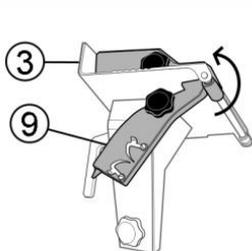

FIG 4. UNLOCKING THE GRIP
1.- Place the product to be cut on the carriage tray (3).
2.- Unlock the grip (9) from under the carriage tray (3), move it to the top of the slide rod, do not force this operation, then rotate the grip (9) counter clockwise to its position over the product (See Fig. 4).